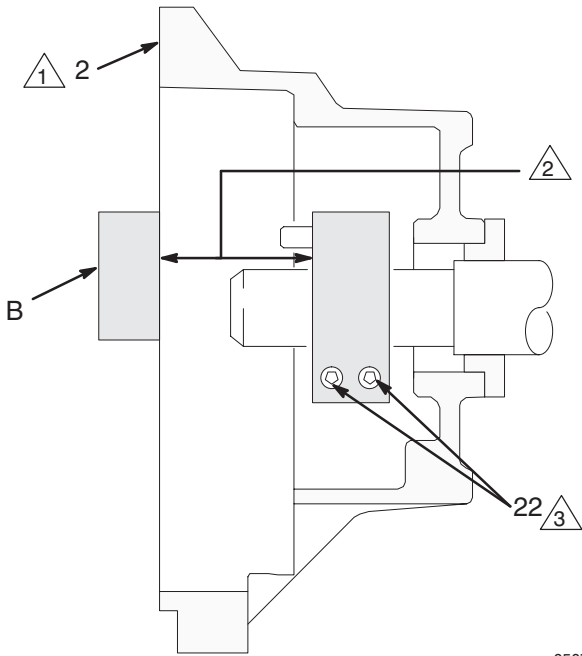

Fig. 21.
4. Press the **clamp (3)** onto the engine shaft (A). Maintain the 1.084 inch $\pm$ 0.01 (27.53 $\pm$ 0.25 mm) dimension shown in Fig. 21.
-  Apply low strength thread locker to set screws (25).